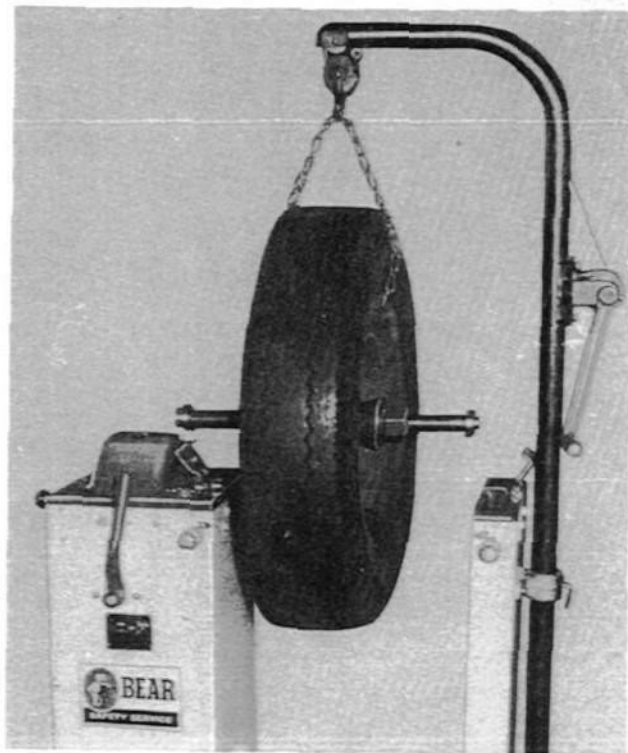

Fig. 7
3. Be sure that the balancer drive shaft is pulled out before placing wheel in balancer. Passenger car wheels may be lifted into flexing heads on balancer. On truck wheels, use wheel hoist, Fig. 7, to swing wheel into place.